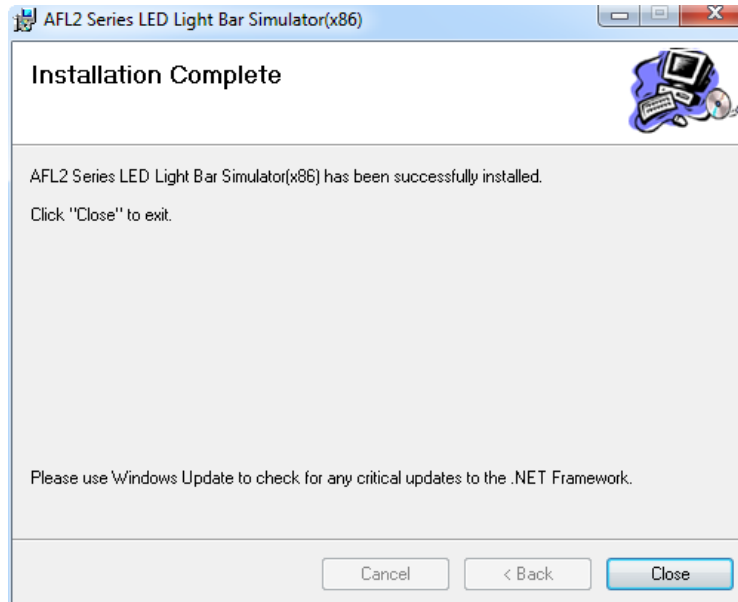

Figure 2-4: Installation Complete
Step 10: When the installation is complete, the screen in **Figure 2-4** appears.